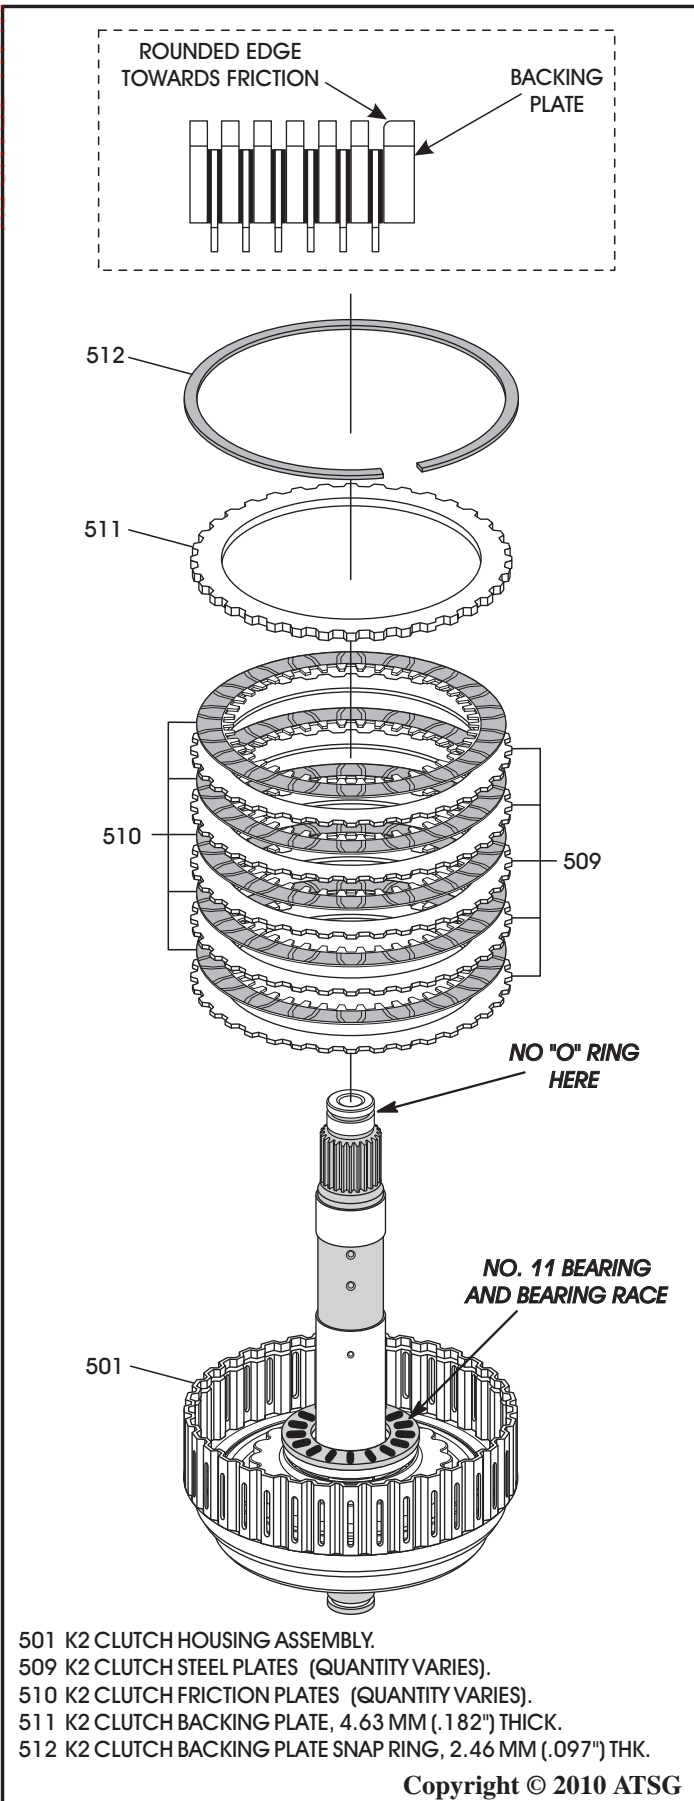

Figure 95
14. Install the K2 clutch plates beginning with a steel plate and alternating with the friction plates, as shown in Figure 95, until you have the proper amount installed as quantity may vary.
15. Install the K2 clutch backing plate, as shown in Figure 95, with the rounded edge toward the friction plate (See Figure 95).
16. Install the K2 clutch backing plate snap ring, as shown in Figure 95.
Note: There is no "O" ring in the groove of the pilot on the K2 clutch housing shaft, as shown in Figure 95.